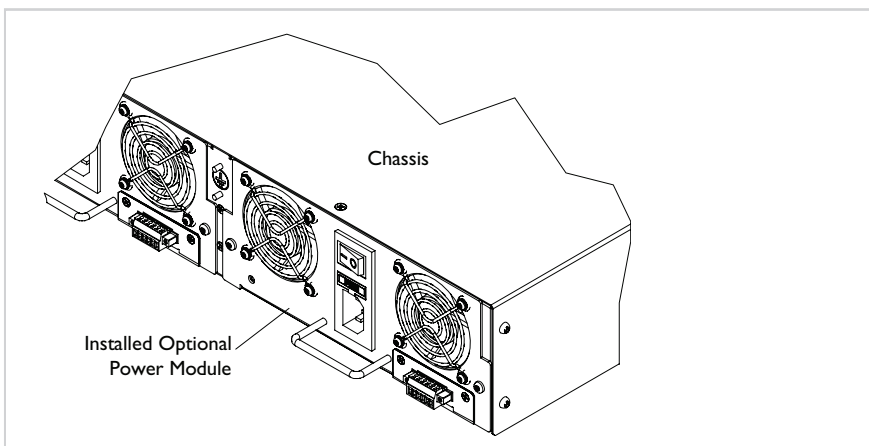

Figure 6: Power Module Installation
- Slide the Power Module completely into the chassis. See Figure 6.